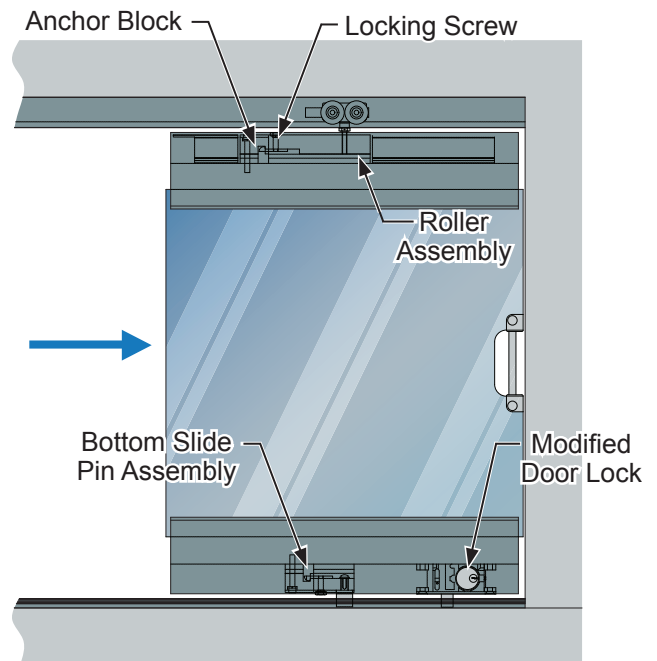

FIG. 15
2. Align the end of the top rail with the roller assembly block. Slide the roller assembly block into the top rail until it contacts with the anchor block. While maintaining contact, tighten the locking screw. **(Fig. 15)**